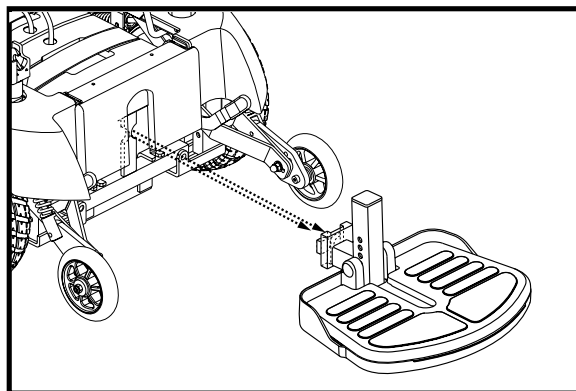

Figure 15. Foot Platform Removal
4. Remove the foot platform by lifting it up, then pulling it out away from the chair. See figure 15.